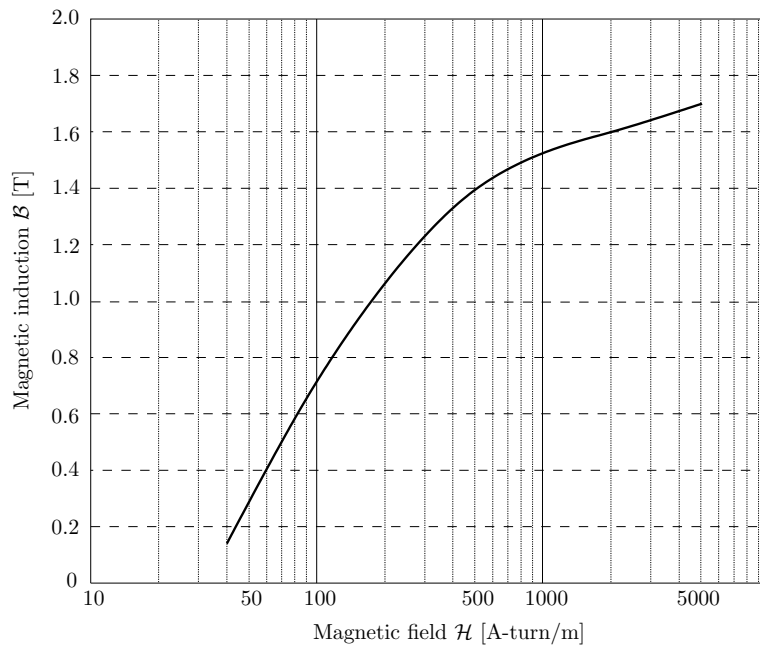

Figure 2
- The current I_1 that leads to a 0.15 T magnetic induction in the air gap, assuming $I_2 = 0.8$ A and the magnetization curve shown in Figure 2.